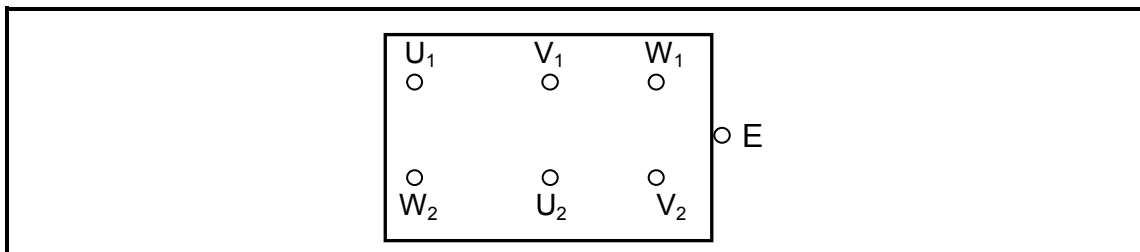

FIGURE 4.1: TERMINALS OF A THREE-PHASE INDUCTION MOTOR
- 4.8 FIGURE 4.1 below represents the terminals of a three-phase induction motor.